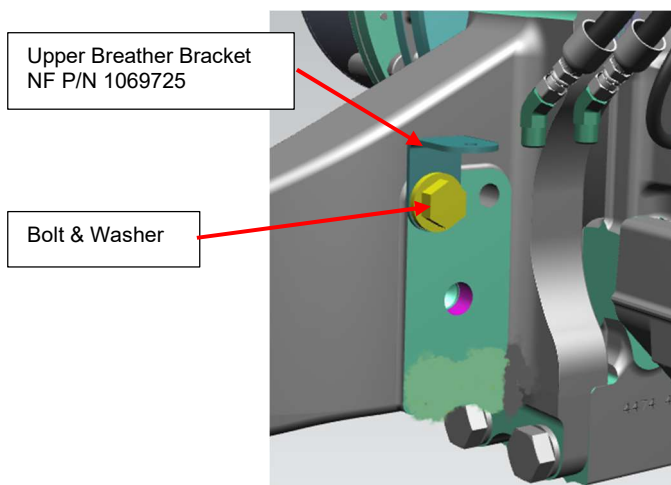

Figure 5: Upper Breather Bracket Installation (Curbside shown)
11. On each side of the axle forward of the drive motor, install a upper breather bracket NF P/N 1069725 using a bolt NF P/N 015341 and hardened washer NF P/N 20W10000. Torque the mounting bolt to 174 Ft-Lbs (Dry). Figure 5.